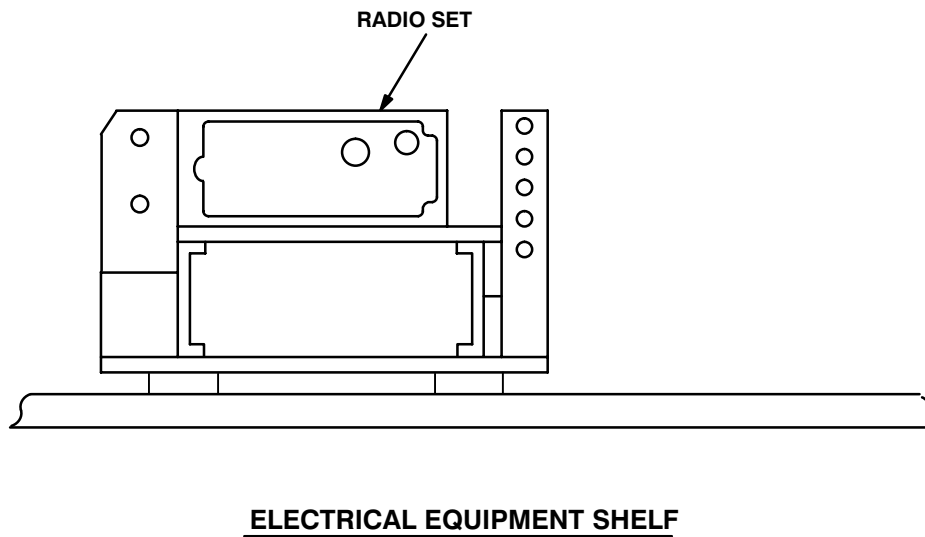

Figure 5-1 (3). MK and Radio Installation: Radio Equipment Locations - M109/M820 Series
**5.1 Installation of Antenna AS-3900/VRC (antenna).** Use the following procedures to install an antenna on the required vehicle. See figure 5-1 (1) or 5-1 (2) for location.